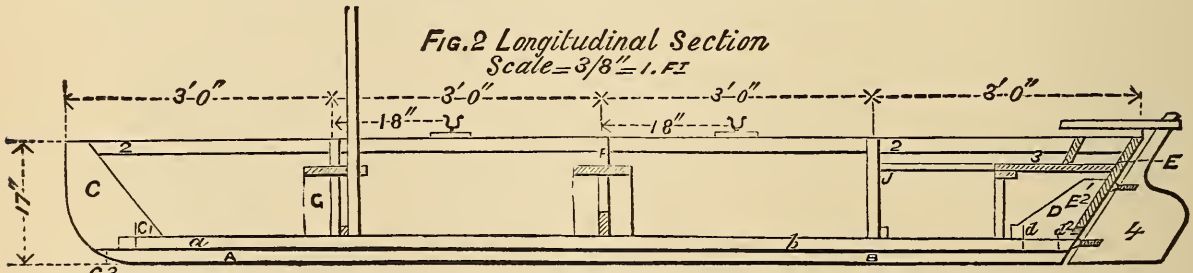

Fig. 2 Longitudinal Section
The first thing to be done is to make the inner keel, or keelson (*a b* of Fig. 2). This can be made of deal, and should be planed perfectly straight. Its greatest length is 10 ft. 10½ in. on the upper side; its breadth is 1 in., and thickness 1½ in. The bow end is to be cut off square, and the stern to be cut to a level of 7 in. in a
The stem piece (C, Fig. 2) should be made of oak, and of the shape shown in the figure, which is drawn to a scale of three-eighths of an inch to a foot. The curve is 9 in. radius, and the total depth 1 ft. 3 in. One strong screw, driven through the inner keel, or keelson (*a b*), at the point *c*¹, will be sufficient to secure it, as, when the keel is screwed on, another screw at *c*² will give it the necessary strength to resist shocks and blows.
The stern piece is formed of two parts (D and E, Figs. 2 and 3), both of which should be made of oak three-quarters of an inch thick. The angle of the bevel of the stern is 120 degrees, or 7 in. in a foot, and when the stern pieces are fixed in their places on the keel, the slope should be in one line, and the piece E perfectly at right angles to the keel. D is fixed to the keelson by two strong screws at *d* and
The transom (E) is sunk into the stern piece (D), as shown in Fig. 2, and secured at right angles to it by two screws at e^1 and e^2 . The whole stern piece can now be fixed to the keelson ($a b$) by two strong screws at the points d and d^2 , Fig. 2.
The next part requiring attention is the amidships (section F of Figs. 2 and 4; see also Fig. 8); this can be made of deal $\frac{7}{8}$ in. thick, 2 ft. 9 in. wide at the top, and 1 ft. 3 in. deep. The outline beginning at f^1 is for 6 in. straight and at right angles to a line drawn across the boat, then it follows a curve of 7 in. radius whose centre is at f^2 to the point f^3 , which is 1 ft. $1\frac{1}{2}$ in. below the top and 1 ft. from the centre line: from this point the outline runs straight until it joins the centre line at 1 ft. 3 in. from the top. A mortise 1 in. wide and $1\frac{1}{2}$ in. deep must be cut in the centre of this section at the bottom, in order that it may fit accurately over the keelson and at right angles to it, in which place it is fastened by a strong screw passing through the keelson from beneath. As its name implies, this section must be exactly amidships.